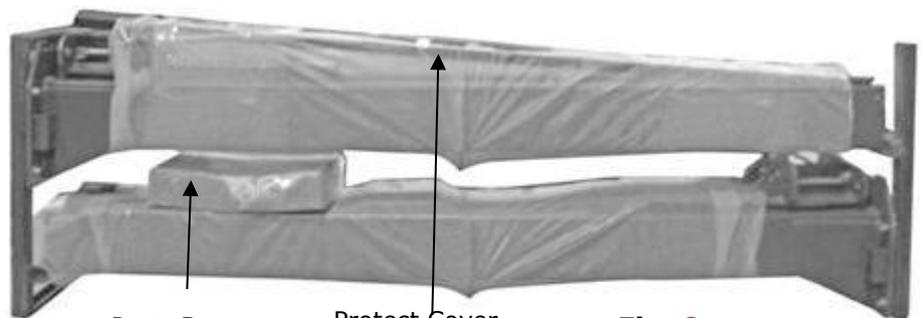

Fig. 7
1. Packaged lift and hydraulic power unit (**See Fig. 7**)